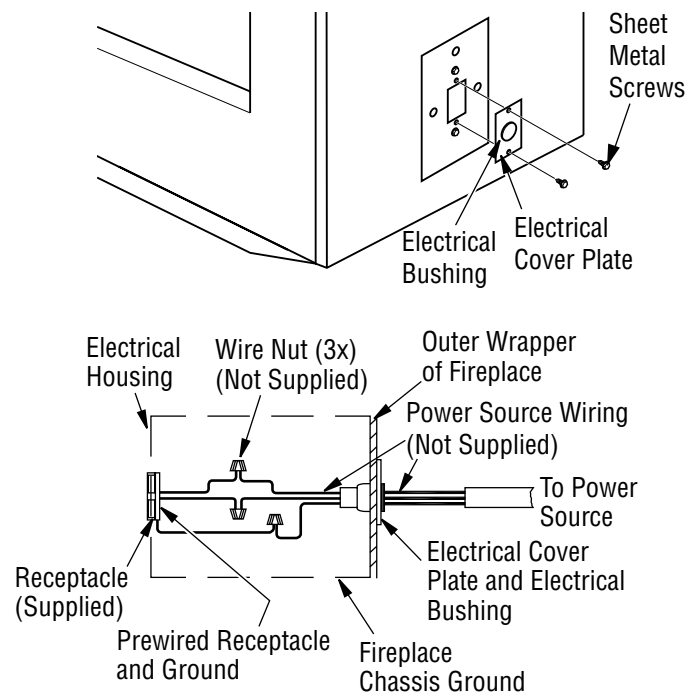

Figure 7 - Fan Switch-Electrical Bushing
Fan/blower kit electrical connections are made through electrical cover plate on side of fireplace as shown in **Figure 7**.
1. Remove electrical cover plate with bushing from fireplace by removing 2 sheet metal screws as shown in **Figure 7**.
3. Slide all wiring connections in electrical housing as shown in **Figure 7**.